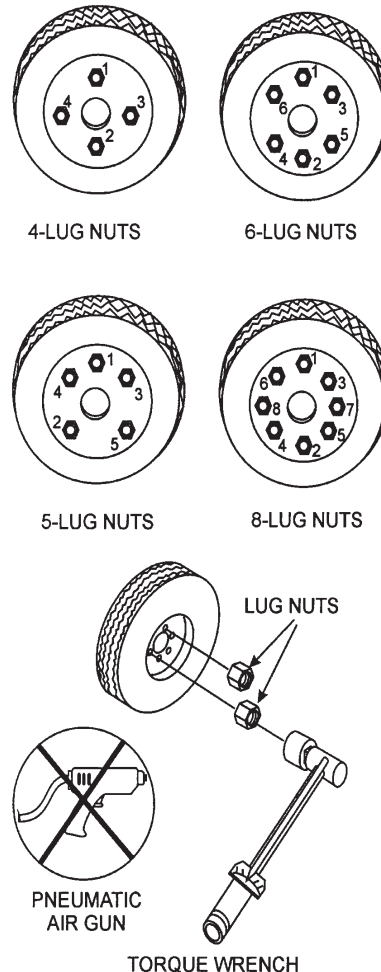

Figure 39. Wheel Lug Nuts Tightening Sequence
2. Torque all lug nuts in sequence (see Figure 39). DO NOT torque the wheel lug nuts all the way down. Tighten each lug nut in 3 separate passes as defined by Table 11.
11. Mount and tighten wheels. See Table 11 on page 60 for tire torque requirements and Figure 39 on page 60 for tightening sequence.
LUG NUTS - Used to secure the wheel to the wheel hub. Always use a torque wrench to tighten down the lug nuts. See Table 11 and Figure 39 on page 60 for lug nut tightening and sequence.